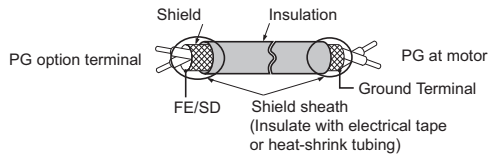

Figure 6 Prepare Ends of Shielded Cable
2. The drive has only two ground terminal screw holes (I). Two ground wires should share the same ground terminal when connecting three options.
4. Prepare and connect the wire ends as shown in **Figure 6** and **Figure 7**. Refer to **Wire Gauges and Tightening Torques on page 33** to confirm that the proper tightening torque is applied to each terminal. Take particular precaution to ensure that each wire is properly connected and wire insulation is not accidentally pinched into electrical terminals.